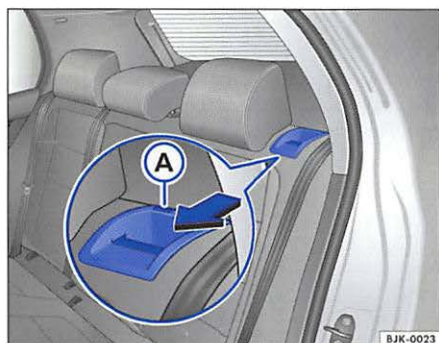

Fig. 49 Rear seat backrest: unlocking
- Unlock the backrest using the master key into the lock ⇒fig. 49 (A) by turning the lock from the horizontal position to the vertical position.
- Lock the backrest using the master key into lock ⇒ page 66, fig. 49 Ⓐ by turning the lock from the vertical position to the horizontal position.